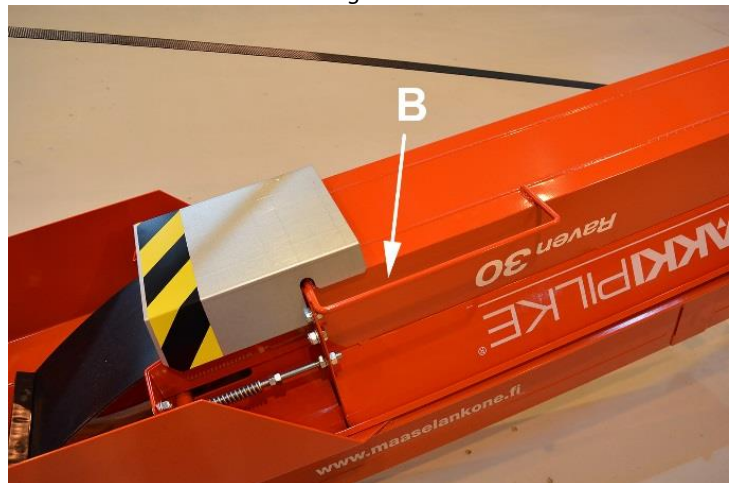

Figure 6.
4. Turn the upper section of the conveyor into the operating position using handle B (Figure 6).